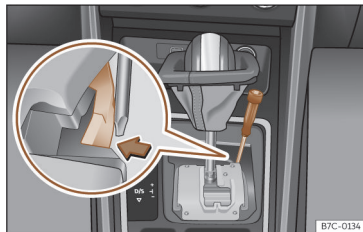

Fig. 95 Selector lever: manual release from position P.
- Using the flat part of a screwdriver, press the yellow tab sideways and keep it pressed down >>> **Fig. 95.**